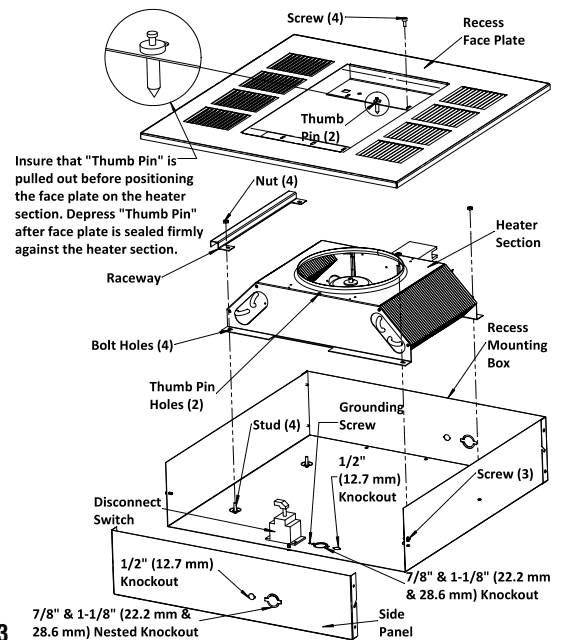

Figure 3
1. Remove the recess mounting box (Figure 3) from the carton containing the Recess Mounting Enclosure, Type FIE-REB-N or FIE-REBNW-W.
2. Remove three screws and the side of the recess mounting box to allow for easier wiring (Figure 3).
3. Remove one of the knockouts close to the ground screw and install a cable or conduit connector (Figure 3).
4. Install the optional disconnect switch (if required as shown in Figure 3).
8. Position the heater section over the studs in the recess mounting box (Figure 3).
- Push the heater section onto the studs and securely tighten two nuts (supplied) on the studs to secure the half of the heater section opposite the sleeved wires to the recess mounting box. Push the raceway onto the studs ensuring that the sleeved wires are in the raceway and securely tighten two nuts (supplied) on the studs to secure the raceway and the other half of the heater to the recess mounting box (Figure 3).
- Remove the Recess Face Plate (Figure 3) from the carton containing the Recess Mounting Enclosure, Type FIE-REB-N or FIE-REBNW-W.
**NOTE:** Insure that the “thumb pin” in each end of the discharge grille opening is pulled outward to allow the body of the thumb pins to fit into the holes in the heater section. (Figure 3.)
- Install and securely tighten four screws (supplied) to secure the recess face plate to the heater section (Figure 3).